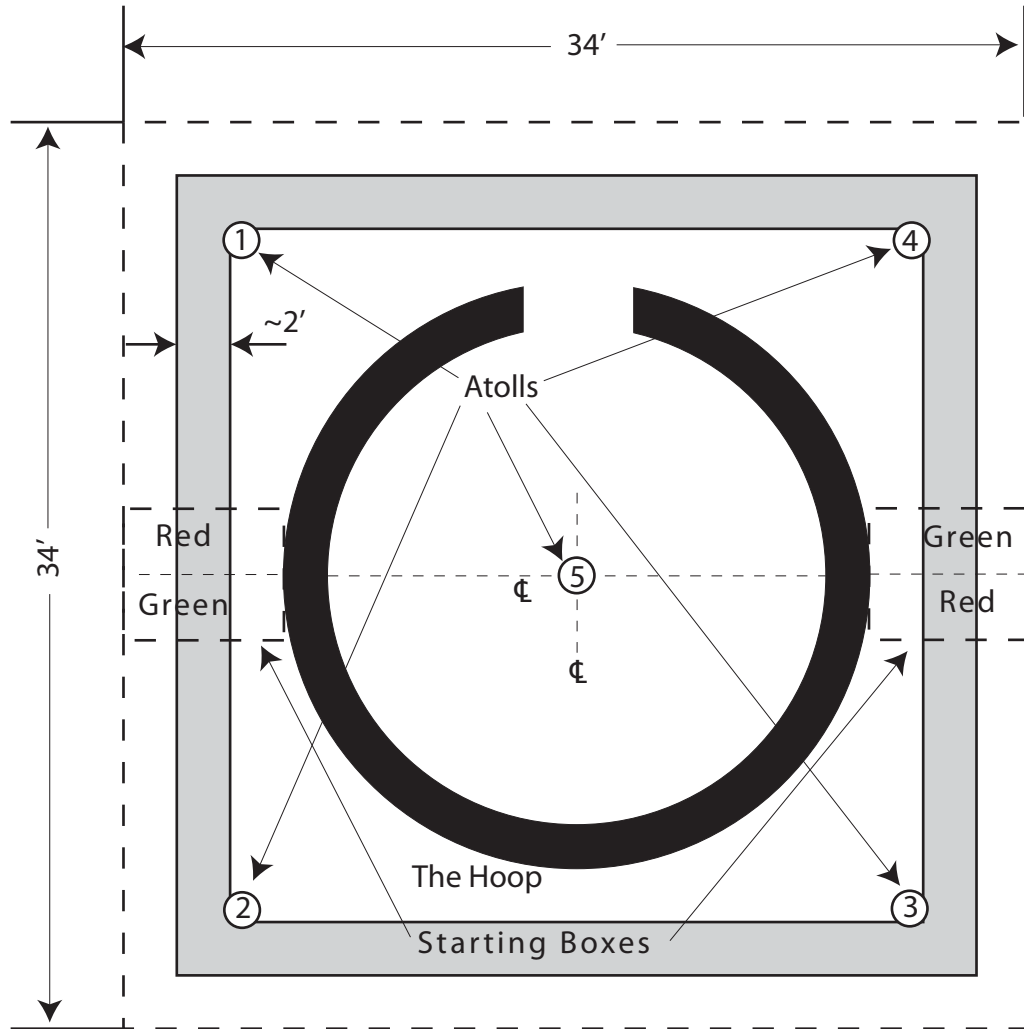

Figure 1: Field layout and dimensions
- Each campaign will begin with the fleets positioned as shown in Figure 1. The Atolls will be in fixed positions in Hoop Fountain, as shown in Figure 1.
- The Field is comprised of Hoop Fountain and a small region around the fountain perimeter (Figure 1). Every effort will be made to ensure that the fountain will be **ON** during grading sessions and public presentations.
- All ACVs will be placed in the starting boxes as shown in Figure 1 at the beginning of each campaign.
- The Atolls will be rigidly supported from the bottom of the pond, with their lower edges approximately at the water line, in the approximate positions shown in Figure 1.